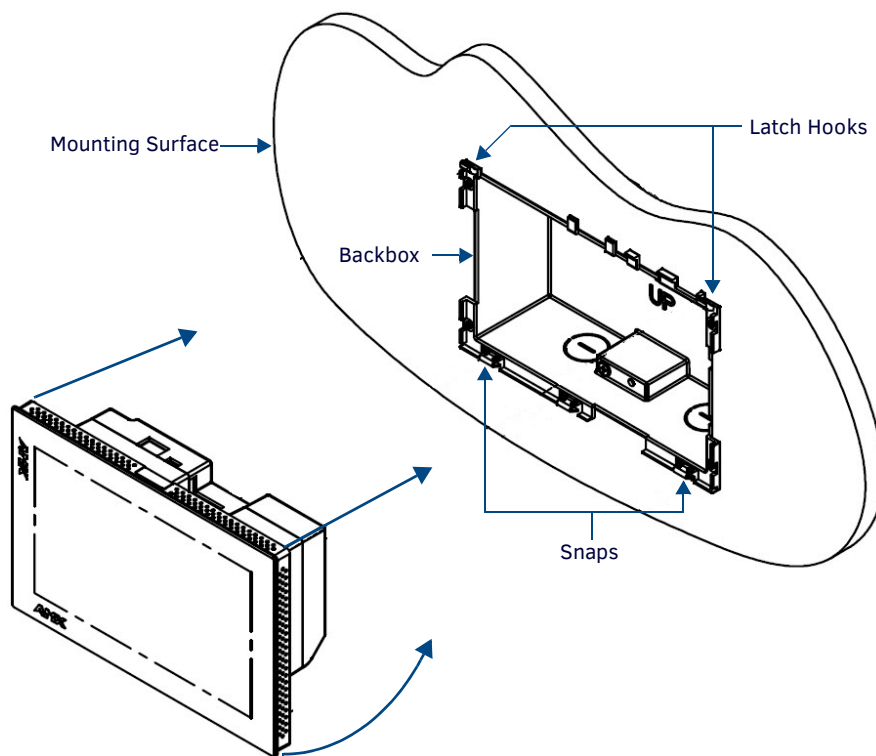

FIG. 45 Installing the MXD-1001 / MXD-701
9. Latch the panel onto the hooks on the Backbox. Push in on the bottom snaps (Landscape) or on the right (Portrait) gently but firmly until the snaps “click” to lock it down (FIG. 45).